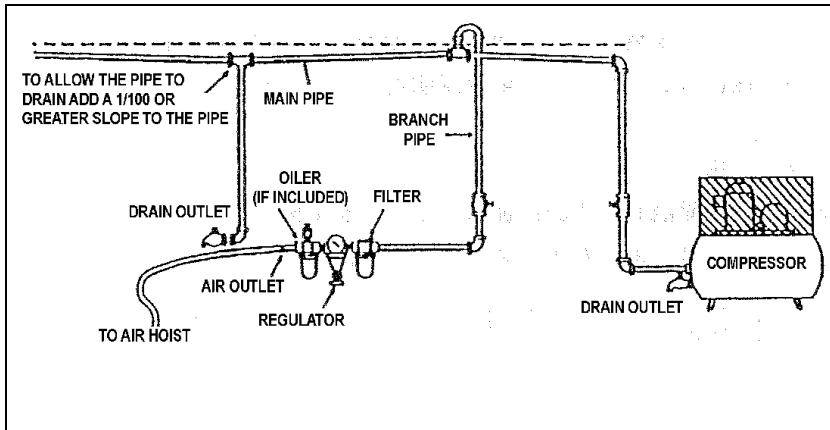

Figure 3-1 Diagram of Air Supply Configuration (Typical)
3.6.1 **CAUTION** System Configuration - The system should be configured as shown in Figure 3-1. Since moisture tends to accumulate in compressed air systems, corrosion may result if the system is not periodically drained.